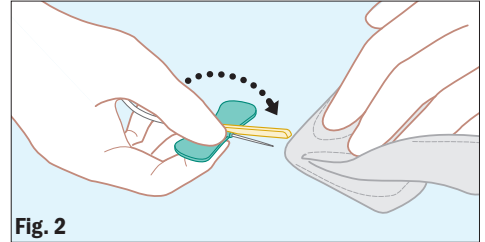

Fig. 2
9. Flip the safety shield forward toward needle. Grasp the wing with your thumb on top of the shield and your index finger under the wing. Completely remove the needle from the puncture site and apply digital pressure to the site using a sterile gauze pad. **(Fig. 2)**